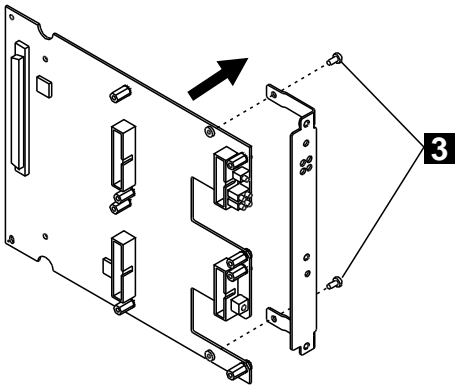

Figure 14. Removing the Dummy Faceplate Bracket
- **4** Remove the dummy faceplate bracket from the motherboard ( **3** in Figure 14), retaining the screws for the new bracket. Save the dummy bracket in a safe place for future reuse.